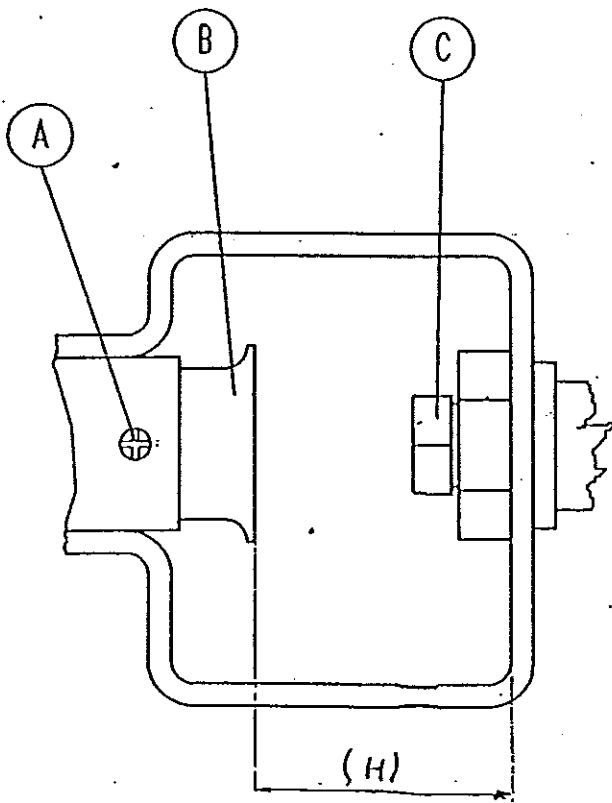

FIG. 2
CONVERSION OR ADAPTATION TO DIFFERENT TYPES OF GAS (fig.2)
- **REPLACING THE JETS (fig.2)**